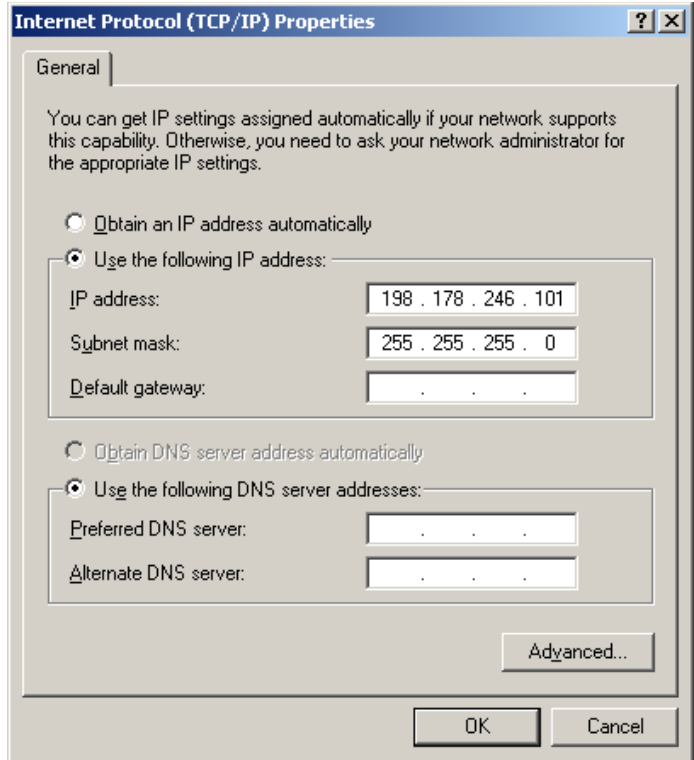

Figure 5.
6. Enter an IP address of 198.178.246.101 and a Subnet Mask of 255.255.255.0, then press OK. (Figure 5)